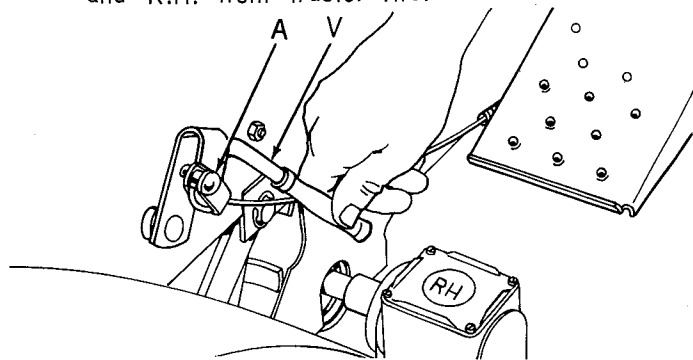

FIG. 17
10. Refer to Fig. 17. Insert rivet pin in cable clevis (A), and secure with cotter pin provided.